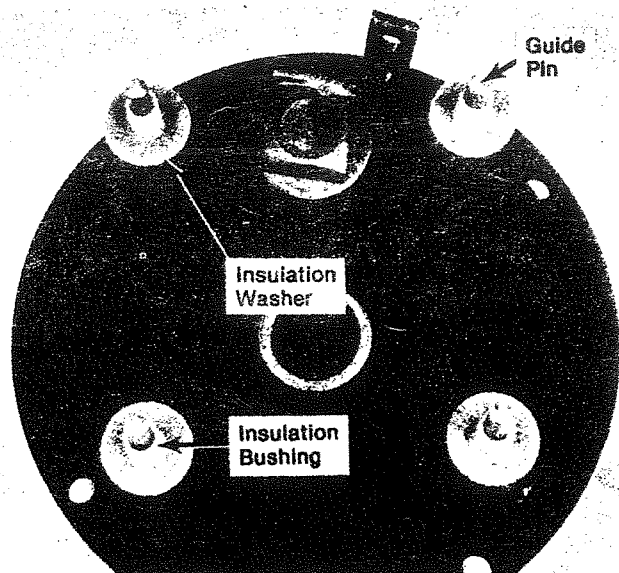

Figure 19
1.3.1 Insert four guide pins in each of the four CE housing mounting posts and slide an insulation bushing and an insulation washer on each of the four guide pins. Insulation bushings must be installed so they pass through the washers and fit flush against the mounting posts. See figure 19.